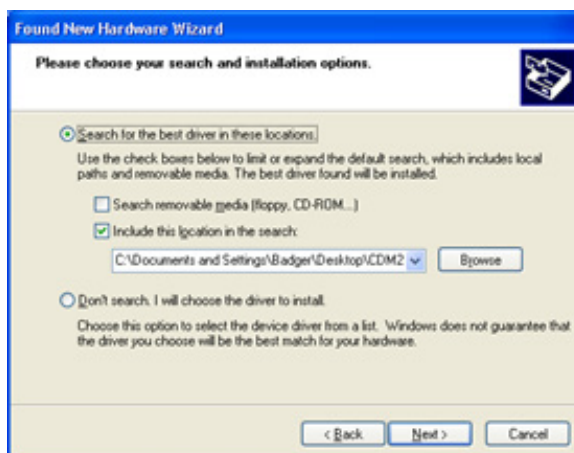

Figure 9: Include a relevant search path
9. When prompted about a specific location to check for the FTDI drivers, check **Include this search location** and browse to the location of the extracted FTDI driver package, as displayed in *Figure 9*.